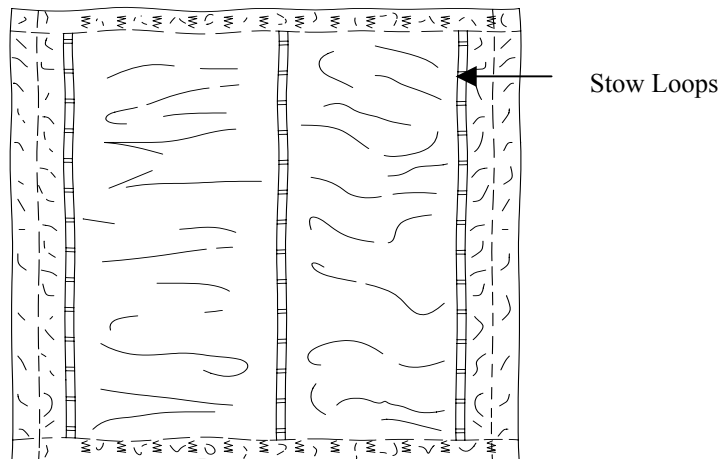

Figure 1. Extraction Line Panel with Stow Loops Facing Up.
- a. Place one Extraction Line Panel on packing table or suitable surface with the stow loops facing up and running lengthwise (figure 1). Place second panel on top of first panel with the stow loops facing down.